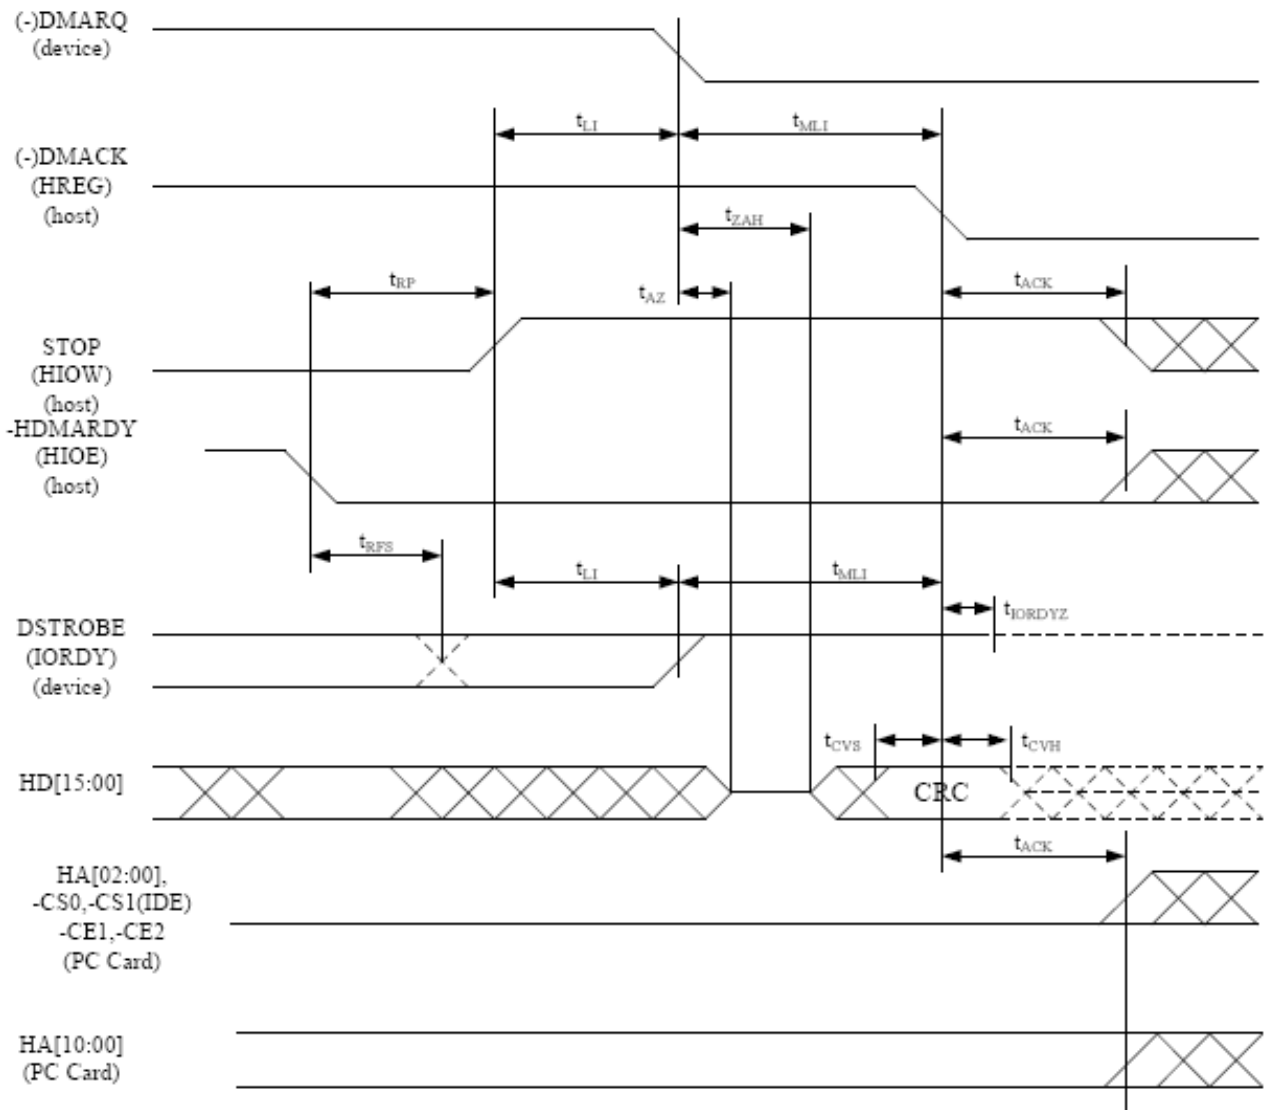
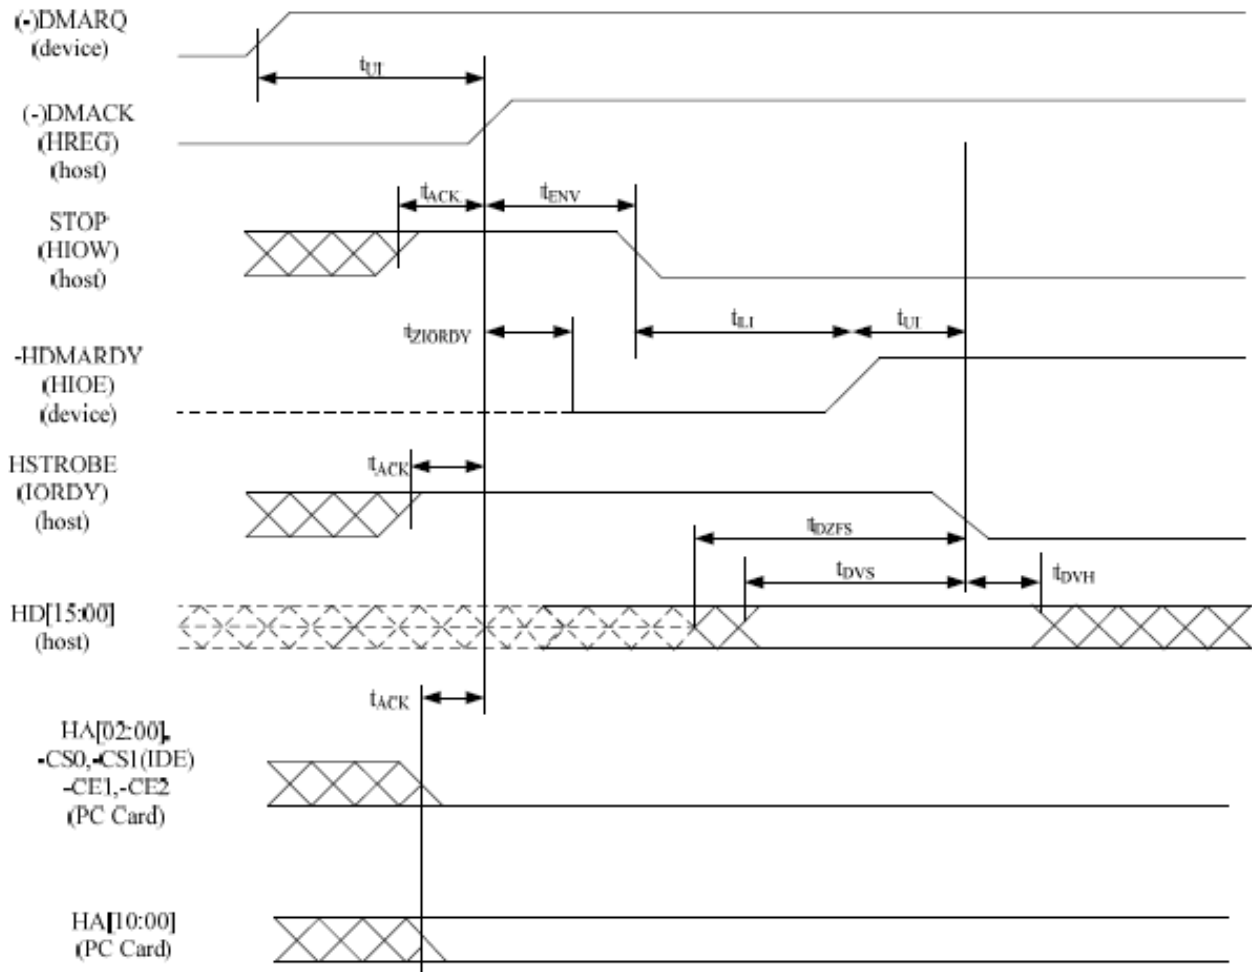

Figure 16: Ultra DMA Data-In Burst Host Termination Timing Diagram
Figure 17: Ultra DMA Data-Out Burst Initiation Timing Diagram
- 1) Parameters t_{UI} , t_{MLI} (in Figure 16: Ultra DMA Data-In Burst Device Termination Timing and Figure 17: Ultra DMA Data-In Burst Host Termination Timing), and t_{LI} represent sender-to-recipient or recipient-to-sender interlocks, i.e., one agent (sender or recipient) is waiting for the other agent to respond with a signal before proceeding. Parameter t_{UI} denotes an unlimited interlock that has no maximum time value; t_{MLI} represents a limited time-out that has a defined minimum; t_{LI} is a limited time-out that has a defined maximum.